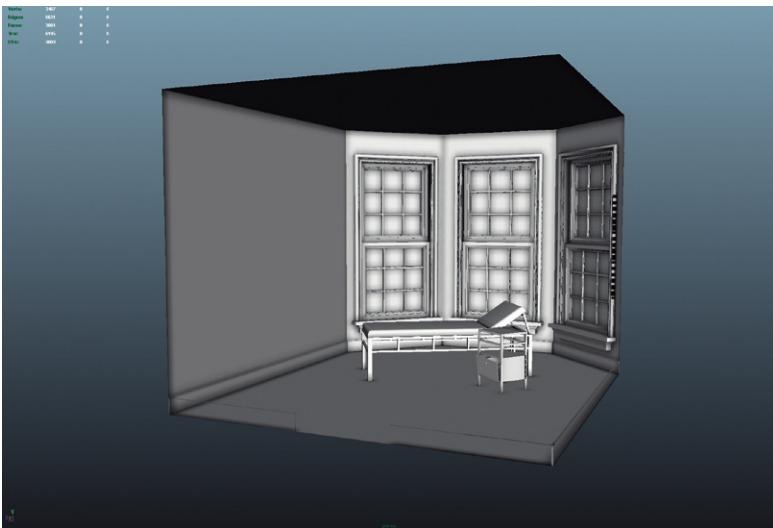

FIG 6.20 Baked AO pass.
Step 43: Tweak if needed and rebake. Take a look at the output, and if the dark spots are to your liking, undo (Cntrl-z) and rebake with higher quality settings. Do this by turning up the Occlusion Rays setting to 256 and again hitting Convert and Close. If the darkened regions are too far or two narrow, adjust the Occlusion Falloff settings, and then rebake with the low Occlusion Rays (16) setting. The final results will look something like Fig. 6.20.